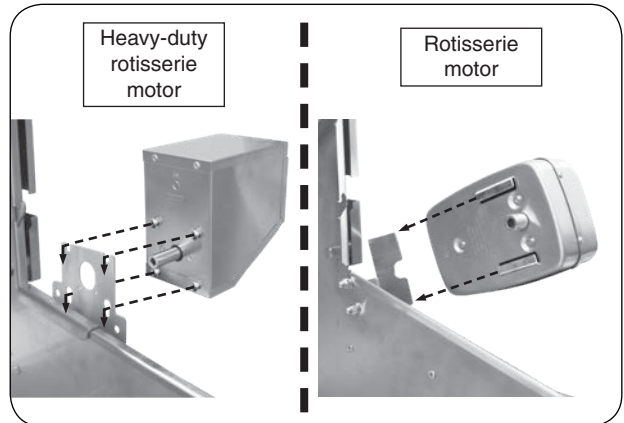

Fig. 26-2 Install rotisserie motor
2. Slide the rotisserie motor fully onto the motor bracket located on the right side of the grill (see Fig. 26-2) and connect it to a power source (do not turn on).